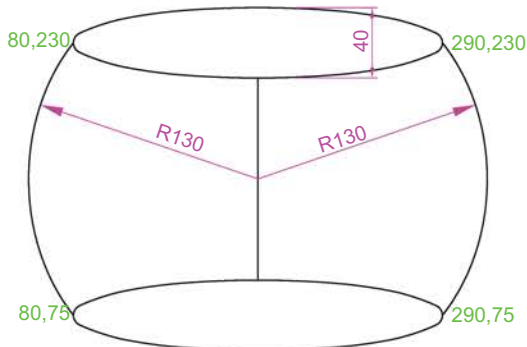

Fig. 4.25 Exercise 3
- Using the **Ellipse** and **Arc** tools, construct the drawing given in Fig. 4.25.